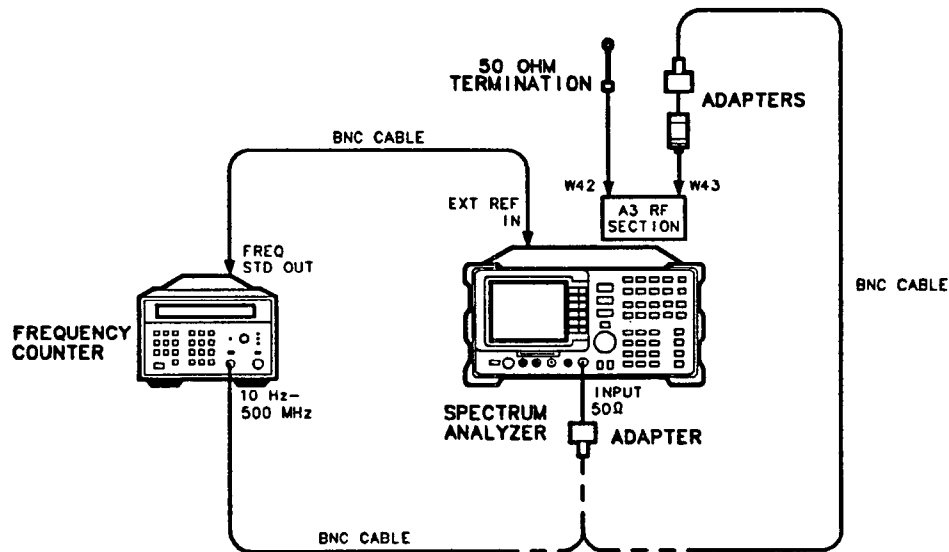

Figure 2-6. Tracking Oscillator Adjustment Setup
- Connect the equipment as shown in Figure 2-6. The microwave frequency counter provides the frequency reference for the spectrum analyzer.